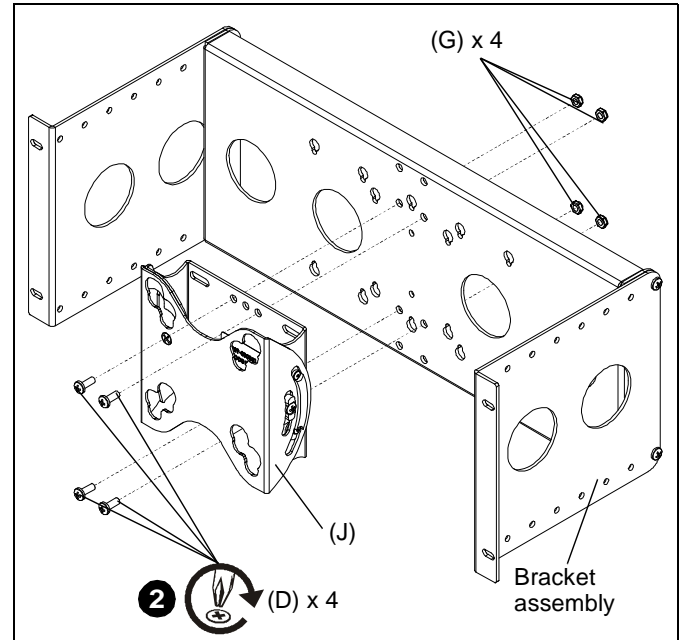

Figure 6
2. Install FTR wall mount (J) to the bracket assembly using four 10-24 x 1/2" Phillips screws (D) and four 10-24 lock nuts (G). (See Figure 6)
4. Install display to FTR wall mount (J) following instructions included with FTR wall mount.